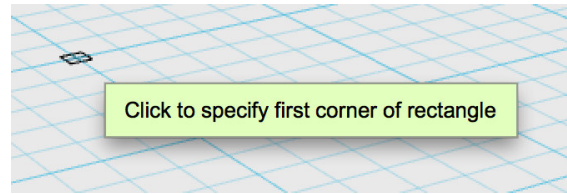

Figure 4-14 Start the rectangle
4. Click once to start the rectangle (Figure 4-14).